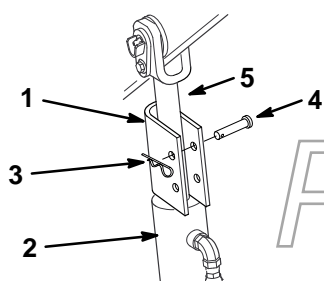

Figure 11
4. Position a loader arm cylinder lock over each lift cylinder rod (Fig. 11).
5. Secure each loader arm cylinder lock with a clevis pin and cotter pin (Fig. 11).